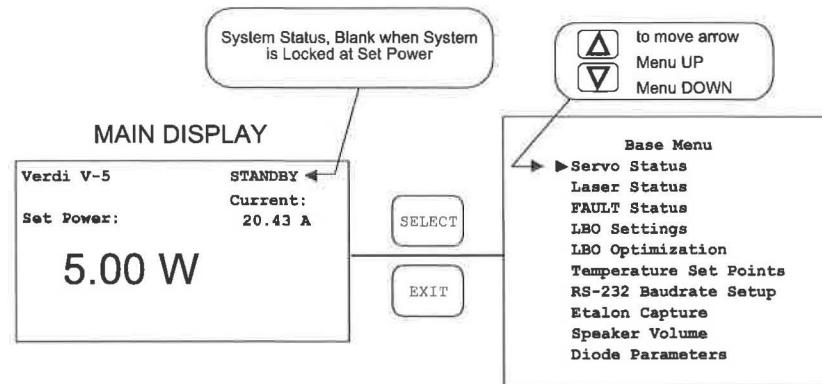

Figure 4-4. Menus
3. The main menu will appear on the power supply front panel display. Refer to Figure 4-4 for a description of the display menus.
Figure 4-4 shows the Verdi V-2/V-5 Main Display and the Base Menu screen. The base menu screen can be reached from the Main Display screen by depressing the SELECT pushbutton on the power supply front panel. Once in the Base Menu screen, the user can return to the Main Display screen by depressing the power supply EXIT pushbutton.
Navigation through a list of submenus, such as that in the Base Menu screen, is achieved by depressing the UP and DOWN arrow keys on the power supply front cover. When the selection arrow (see Figure 4-4) points to the desired submenu, that item can be activated by depressing the SELECT pushbutton. Depressing the EXIT pushbutton will deactivate the submenu, and re-display the Base Menu screen. Examples and explanations for all Verdi V-2/V-5 submenus can be found in Table 4-5.
The current status of the laser system is displayed in the upper right-hand corner of the Main Display screen of the software, see Figure 4-4. Possible messages are: